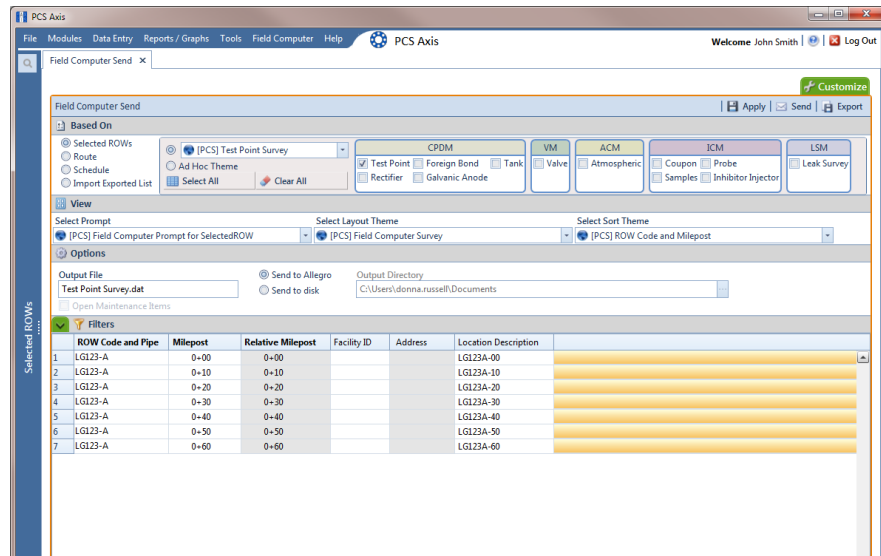

Figure 13-28. Field Computer Send Based on Exported List
- a** Click the **Import Exported List** option (Figure 13-28).